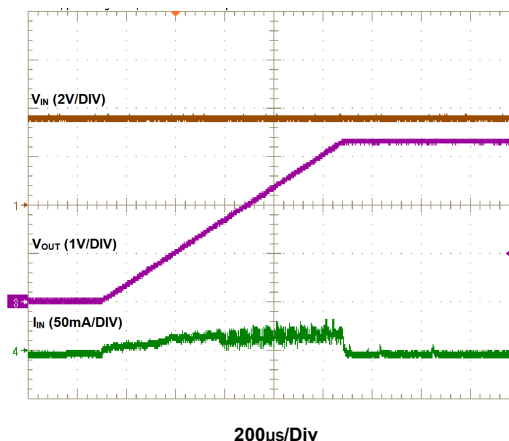

Figure 2. ISL9122A Start-Up with  $V_{IN} = 3.6V$  and  $V_{OUT} = 3.3V$
For both evaluation boards, the default output voltage is set at 3.3V. Use the following procedures to configure and power-up the board for proper operation. During the power-on process, the expected waveforms are shown in Figure 2.
6. Monitor the output voltage start-up sequence on the scope. The waveforms should look similar to those shown in Figure 2.